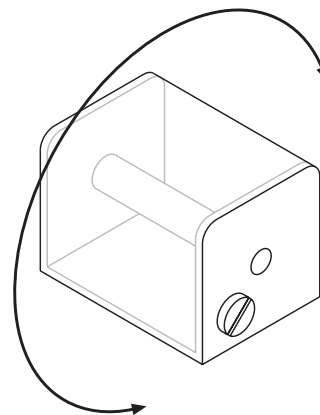

Figure 1: Shake the Vessel to Distribute Fillings
1. Shake the tank slowly and gently as shown in Figure 1 to distribute the fillings evenly. Vigorous shaking may produce bubbles in the paraffin making it difficult to observe the fillings.